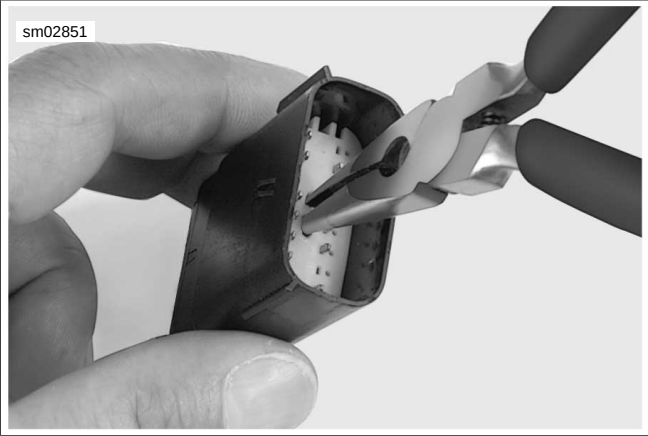

Figure A-45. Pull Up Secondary Lock (Pin Housing)
- b. **Pin Housing:** See Figure A-45. Use needle nose pliers to engage the D-holes in the center of the secondary lock.